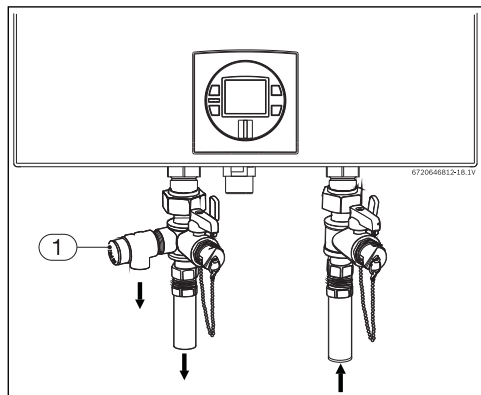

Fig. 34 Plumbing Connections (with shutoff valves) and Pressure Relief Valve
- Full port shutoff valves should be installed on both the cold water supply and hot water outlet lines to facilitate servicing the heater (see fig. 34).
A listed pressure relief valve must be installed at the time of installation. No valve is to be placed between the PRV and the heater. No reducing coupling or other restriction may be installed in the discharge line. The discharge line must be a minimum of 4" above a drain and installed such that it allows complete drainage of both the PRV and the line. The discharge line must be placed where it will not cause any damage. The location of the PRV must be readily accessible for servicing or replacement, and be mounted as close to the water heater as possible. See fig. 34. To install the PRV, a suitable fitting connected to an extension on a "T" fitting can be sweated to the hot water line. Support all piping.